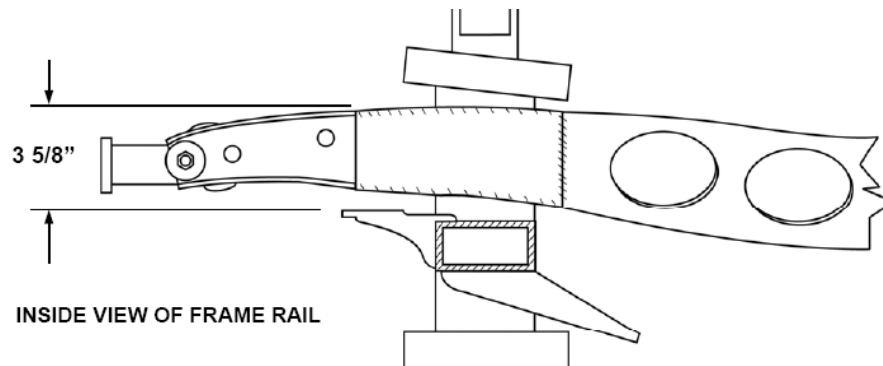

Figure 3- Radiator Support Bracket Install
6. The radiator support bracket is next. Center the support on the front of the crossmember and clamp in place. Measure up from the top of the support to the top of the frame directly above the radiator support, using a straight edge across the top of the frame rails. This dimension should measure 3 5/8". See **Figure 3**. If it is too high and the dimension is less than 3 5/8", trim the base of the radiator support to bring it to that dimension. If the support is too low, the radiator cradle assembly can be shimmed to its correct position when it is bolted to the radiator support.